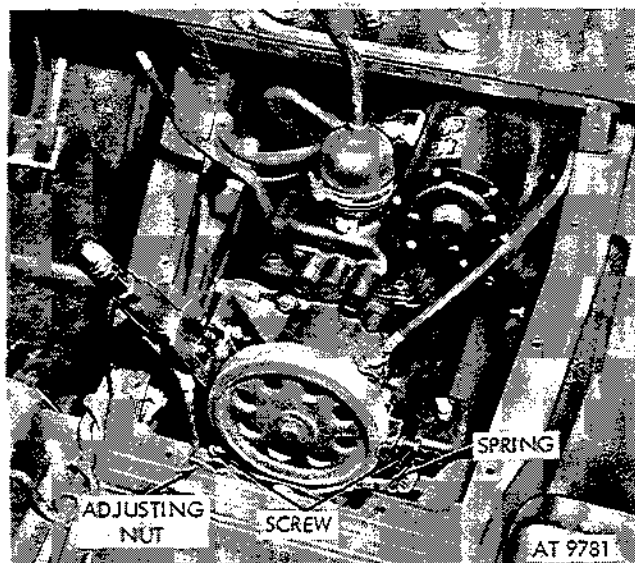

Figure 2-358. Parking brake adjustment.
b. Move parking brake lever forward to fully released position (fig. 2-358).
c. Loosen jam nuts on band-aligning screws and adjusting nut alternately, using feeler gage until a clearance of 0.010 inch is obtained between brake lining and drum. Tighten jam nut (fig. 2-358). Place vehicle on incline and test parking brake. Install cover plate.
(1) Park the vehicle on an incline, preferably a 40 percent slope (with highway load).
(2) Turn adjusting knob on top of lever counterclockwise to remove adjustment.
(3) Put handle in vertical engaged position and turn adjusting knob clockwise as tight as possible with one hand.
(4) Release handle to horizontal position and turn adjusting knob two full turns clockwise.
(4) Remove band-adjusting nut (fig. 2-358).